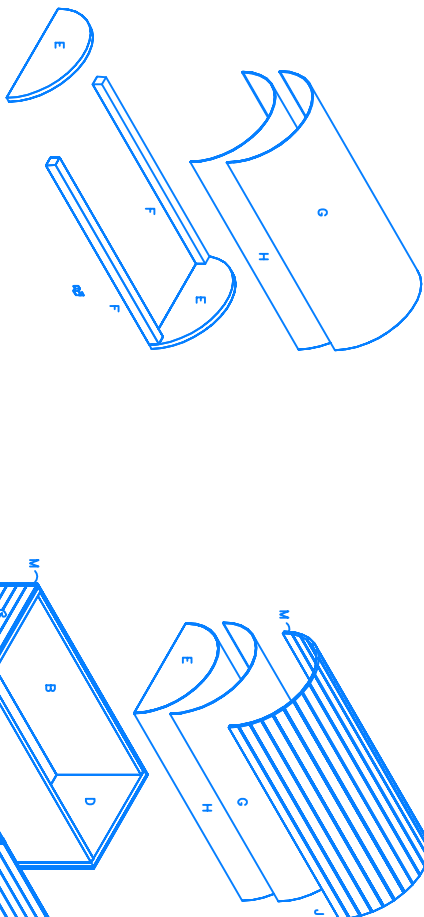

FIGURE 5
- 3) Fit pieces F to pieces E and ensure that the curve of pieces E fit the bowl on pieces F. Sand pieces F if necessary. Glue ends of pieces F and attach to pieces E by nailing through pieces E into pieces F with 1 1/2" finishing nails. See (Fig 5). Glue curved edges of both pieces E and F shape piece H to fit pieces E. Starting at the apex of each piece E nail piece H to pieces E with 1/2" carpet nails. Glue surface of piece H and form piece G nailing piece H through piece G into pieces E with 1/2" carpet nails.